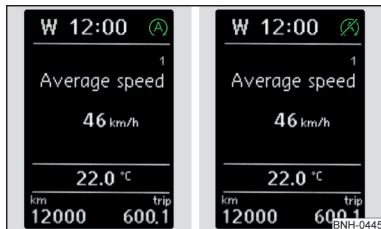

Fig. 100
If after stopping the car, the message **START-STOP NOT POSSIBLE** appears in the segment display or the MAXI DOT display shows the  » Fig. 100 warning sign, then the conditions for automatic engine shutdown are not being met.
Automatic engine shutdown takes place, segment display shows **START-STOP ACTIVE** or the MAXI DOT display shows the warning sign  » Fig. 100 on page 113.
Automatic engine shutdown takes place, segment display shows **START-STOP ACTIVE** or the MAXI DOT display shows the warning sign (A) » Fig. 100 on page 113.